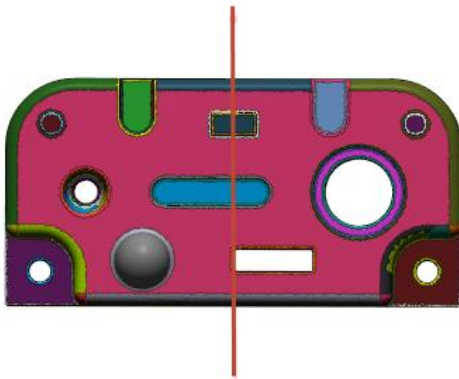

Figure 100
- Draw a line roughly in the orientation shown in **Figure 100** to create a plane.